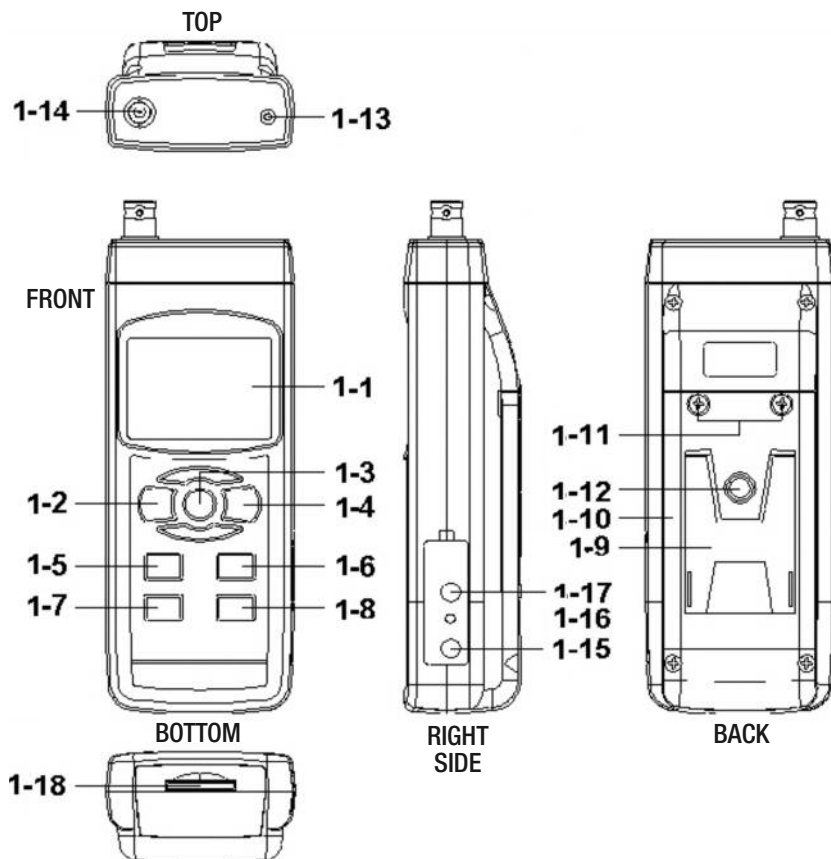

Fig. 1. The DPH230SD's controls and indicators and other physical features
Figure 1 shows all of the controls and indicators on the front, back, top, bottom and right side of the DPH230SD. Familiarize yourself with the positions and functions of these controls, indicators and connectors before moving on to the setup procedure.
1. Insert the plug of the pH electrode into the BNC socket at the top of the meter (callout 1-14 of Fig. 1).
2. To measure the pH of a solution, press the ▼ button until the display shows the term “pH”. Make sure the pH electrode is seated firmly in the BNC socket (callout 1-14 of Fig. 1) on the top of the meter. If the ATC temperature probe is being used, make sure it is seated firmly in its socket (callout 1-13 of Fig. 1) on the top of the meter as well. If the ATC probe is not being used, perform the last step of procedure to manually match the compensation temperature to the temperature of the solution being tested.
3. To measure the ORP of a solution, press the ▼ button until the display shows the term “mV”. Plug an optional ORP electrode with a BNC connector into the same socket on the top of the meter (callout 1-14 of Fig. 1) that accepts the plug of a pH electrode.